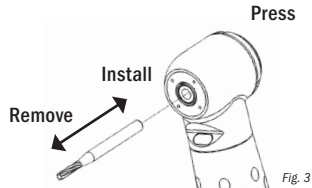

Fig. 3
1. Press push-button and insert bur into head until it stops (Fig. 3).
1. Press push-button on end cap with thumb (Fig. 3).